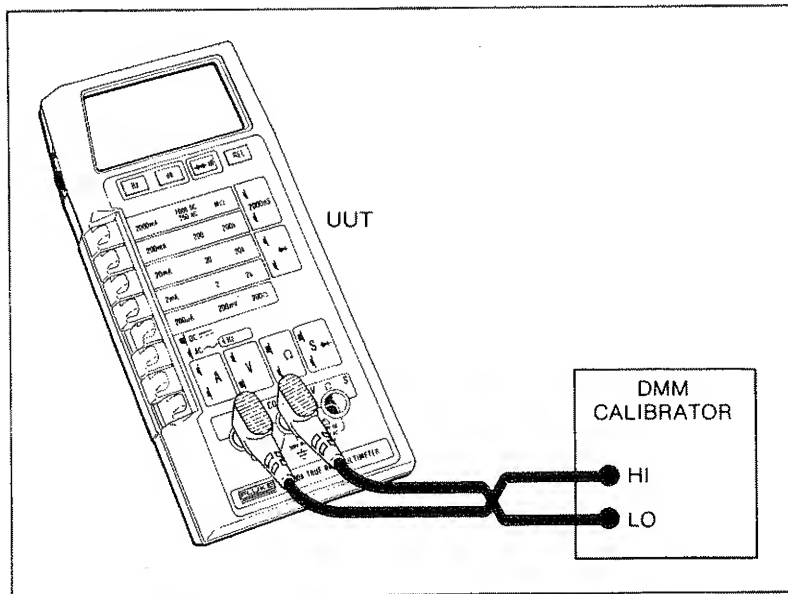

Figure 5-5. Equipment Connection for Current Test
1. Connect the UUT and the DMM Calibrator as shown in Figure 5-5.